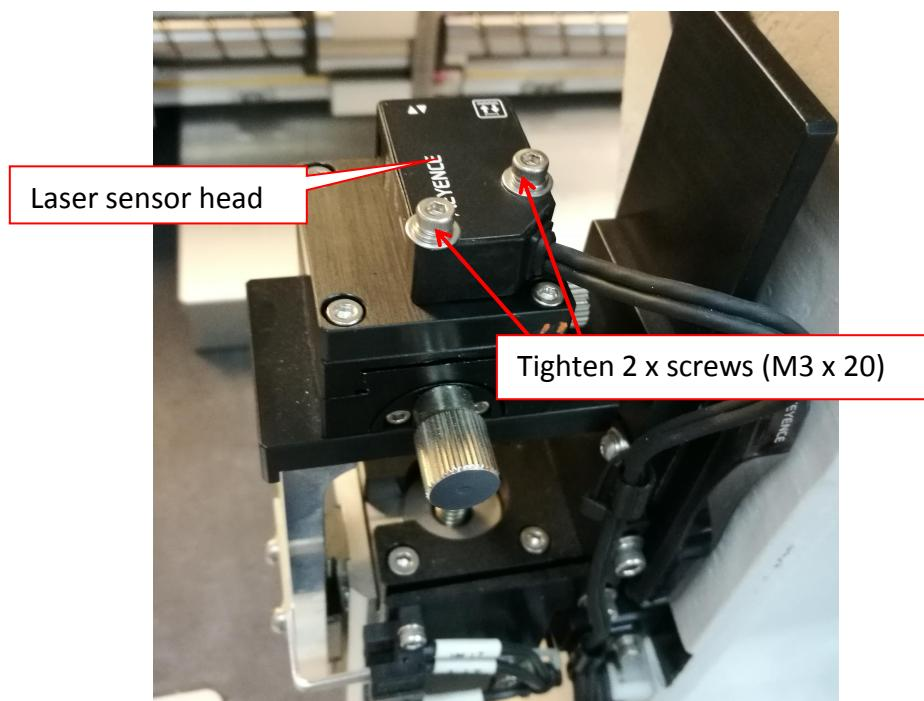

Figure 28 Laser head assembly
2. Assemble laser head & tighten 2 x screws (SHCS M3 x 20) as shown in Figure 28.